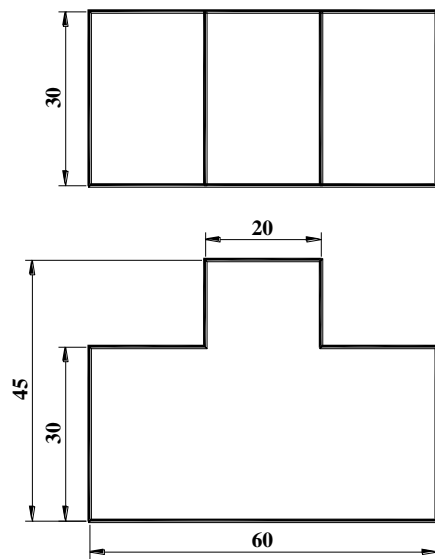

FIGURE T3.1A
1. 1. DRAW THE PERSPECTIVE PROJECTION FROM THE GIVEN ORTHOGRAPHIC VIEWS IN *FIGURE T3.1A* TO *T3.1D*.